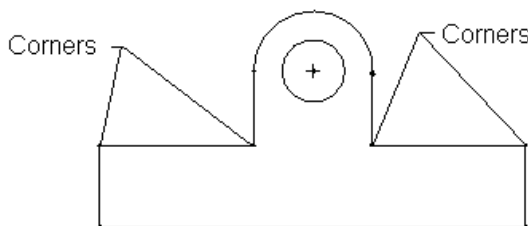

Figure 3-38 Corners to be filleted
- c. Apply fillets at two corners of the sketch, refer to Figures 3-38 and 3-39.
1. Choose the **Circular** option from the **Fillet** drop-down in the **Sketching** group; you are prompted to select the two entities to be filleted. The corners that you need to fillet are shown in Figure 3-38.